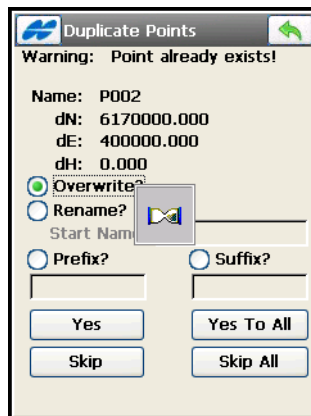

Figure 5-7. Duplicate <Objects>
10. When names of these imported objects coincide with existing ones in the current job, the *Duplicate Objects* screen (Figure 5-7) issues a warning that prevents the loss of points, roads, or point lists.